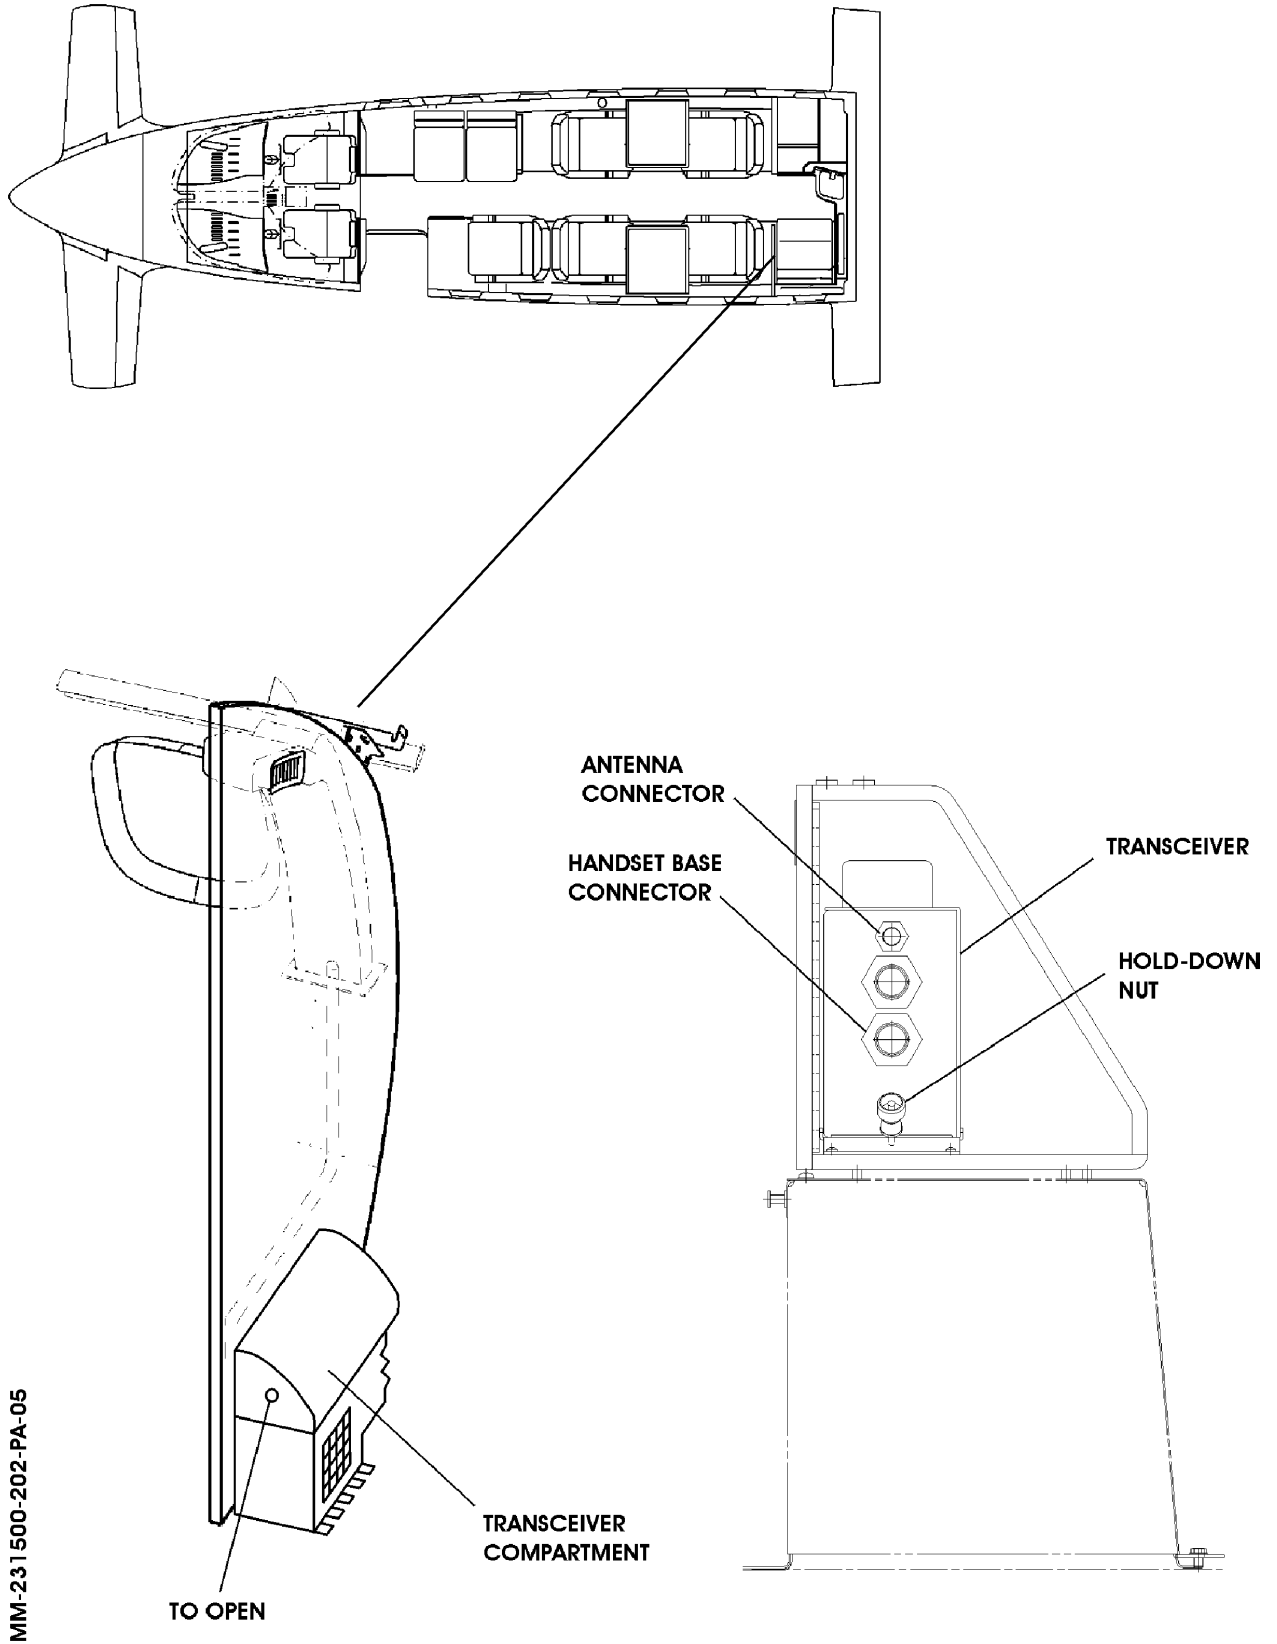

Fig. 202 - Transceiver
4. Transceiver - Removal (Refer Fig. 2 and Fig. 202).
5. Transceiver - Installation (Ref. Fig. 2 and Fig. 202)